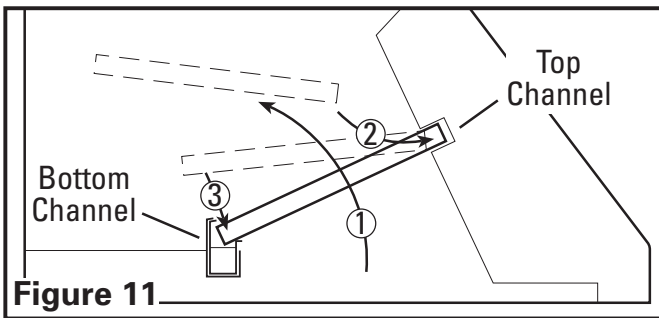

Figure 11
- Install the baffle filters along with any spacer bars that are required by inserting the top of the filter into the top channel of the hood, then slide the bottom of the filter into the bottom channel. In models with spacers, it is easiest to install the spacer(s) first and the grease filters last (Figure 11).